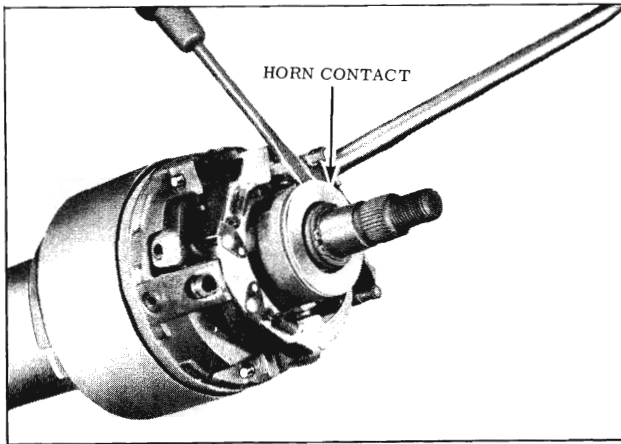

Fig. 4-85 Removing Horn Contact
3. Pry out the horn contact assembly from the turn signal actuator housing and remove the contact and wire assembly. (Fig. 4-85)